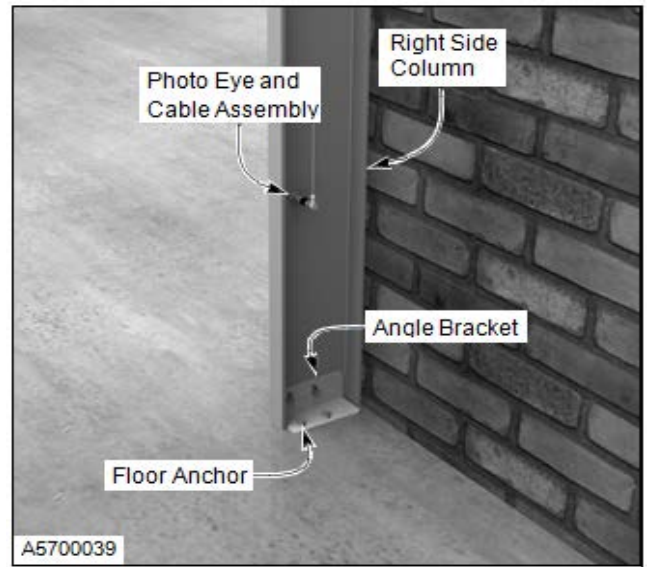

Figure 12
5. Anchor the floor angle bracket. DO NOT tighten the anchors securely at this time — they will be tightened, after the head assembly is installed. (See Figure 12)